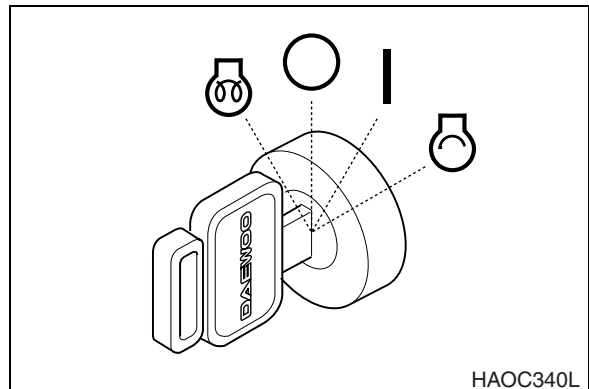

Figure 26
5. Shut down engine by turning key to "O" (OFF) position (Figure 26).